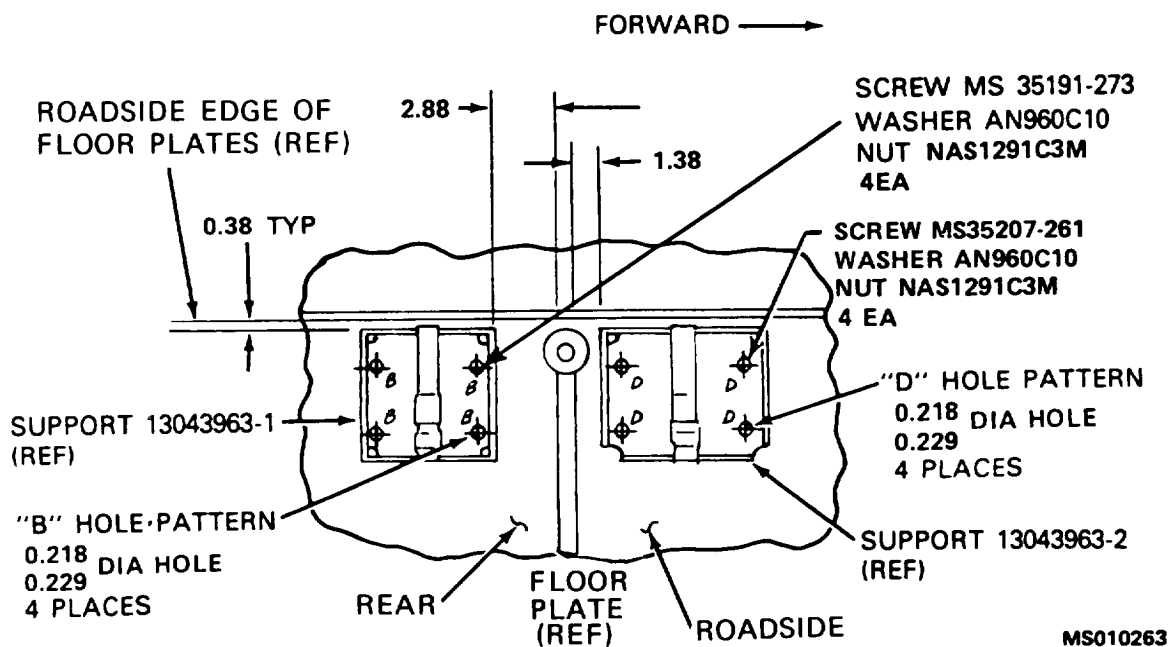

FIGURE 3-20. 13043963-1&-2 SUPPORT LOCATION AND INSTALLATION
- j. Locate and scribe mark both floor plates holding the dimensions as shown in figure 3-20.
- k. Place the rear of the supports on the 0.38 scribe mark from the roadside edge of the plates and align the supports to the 2.88 scribe mark and 1.38 scribe mark as shown in figure 3-20.
- m. Repeat step d. above for PN 13043963-1 support but transfer the four hole pattern "B" from support as shown in figure 3-20.
- o. Mount support PN 13043963-2 to the roadside floor plate using four screws, four washers, and four nuts as shown in figure 3-20.
- p. Install support PN 13043963-1 to the rear floor plate using four screws, four washers, and four nuts as shown in figure 3-20.